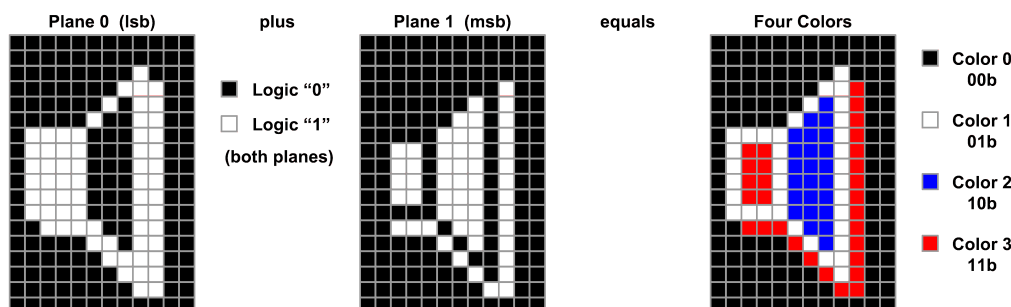

Figure 18. Four-Color Character
2. Four-color: There are a total of 128 four-color characters, in two banks of 64 (banks 3 and 7). Each pixel of the four-color character is defined by two bits of information, and thus can define four different colors, Color 0, Color 1, Color 2 and Color 3. Color 0 is defined as the "background" color. All other colors are considered "foreground" colors, although for most purposes, any of the four colors may be used in any way. Because each four-color character has two bits, the LM1247 internally has a matrix of two planes of ROM as shown in Figure 18. In that figure, dark pixels indicate a logic "1" and light pixels which indicate a logic "0". The left side shows plane 0 which is the least significant bit and the middle figure shows plane 1 which is the most significant bit. The right side composite character formed when each pixel is represented by its two bits formed from the two planes. The color palette used in this example is "00" for white, "01" for black, "10" for blue and "11" for red.